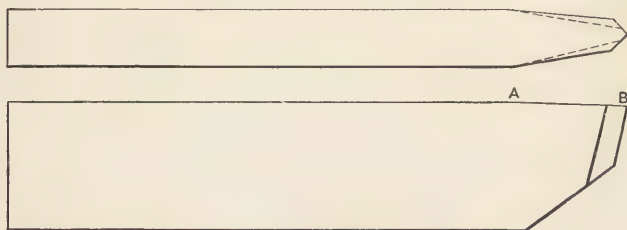

Fig. 48. Brass-cutting Tool.
**Brass Turning Tool.**—A V-tool, which is the best tool for brass turning, is shown in Fig. 48. It should be so made as to slope down slightly from *A* to *B*, and should be tempered very hard.